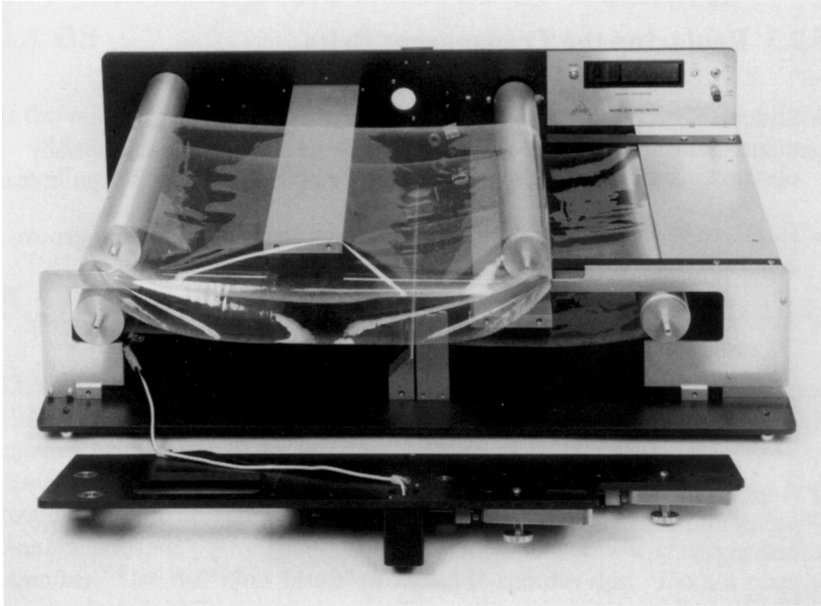

Figure 8. Upper belt rocking idler and lower belt idler removed. To remove the belts, draw them outward.
- Slide the belts outward to remove them (Figure 8).